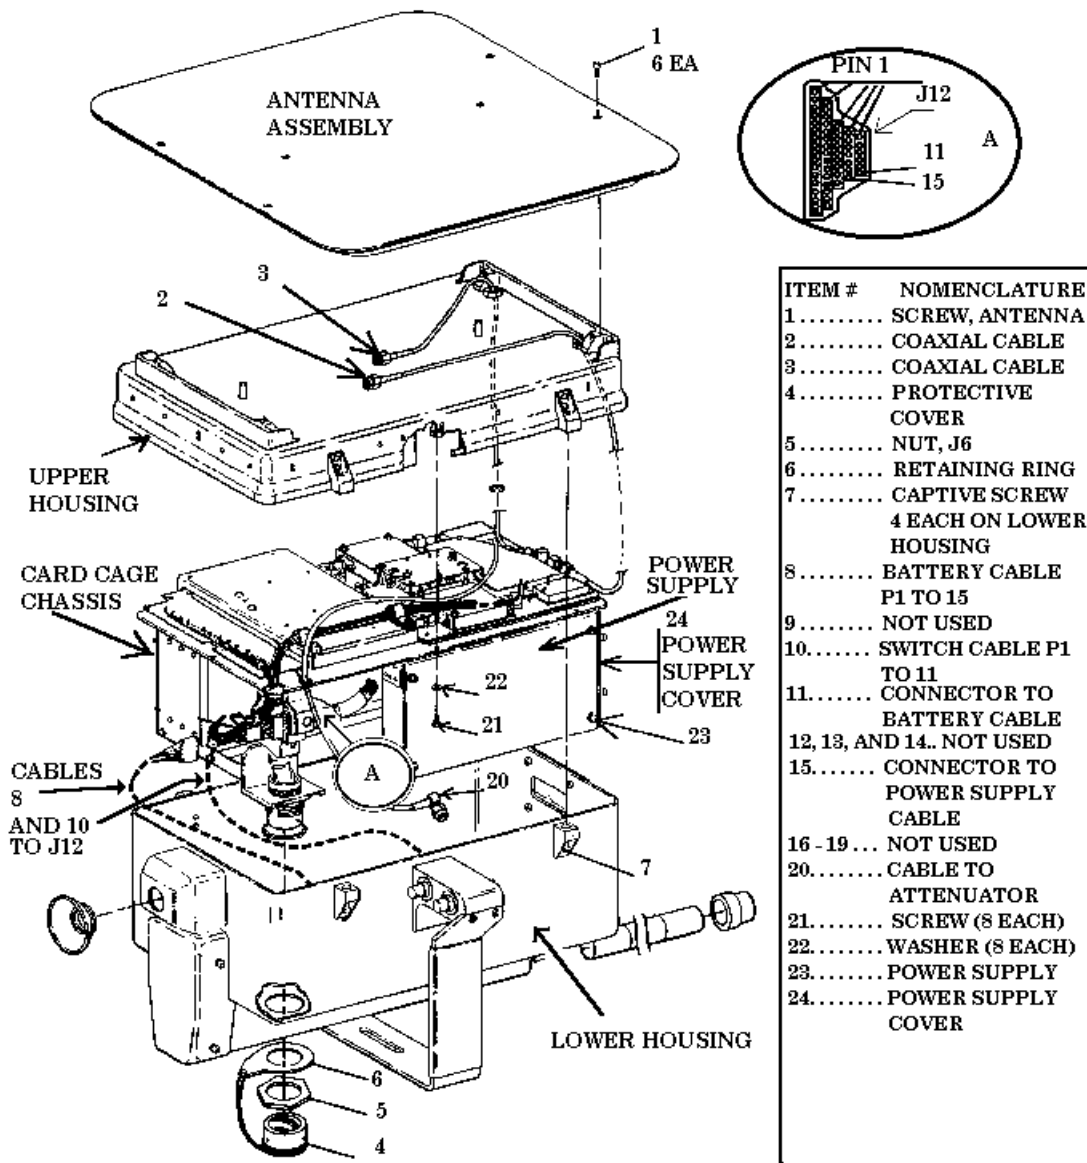

Figure 4. Disassembly blowout.
Disassembly instructions and items in parenthesis below are used in conjunction with test set disassembly blowout (fig. 4).
- (1) Remove six screws (1) (fig. 4).
- (2) Gently lift antenna and disconnect cables (2) and (3) (fig. 4).
- (1) Turn TI upside down and remove cover (4), nut (5), and retaining ring (6) (fig. 4).
- (2) Loosen four screws (7) (fig. 4) and gently lift and place lower housing beside TI with handle side down.
- (3) Disconnect switch cable P1 (10) (fig. 4) from connector (11) (fig. 4, inset A).
Look at connector 11 (fig. 4, inset A) and P1 cable end. Notice the arrangement of pins and guide pins for future reconnections.
- (4) Disconnect battery cable P1 (8) (fig. 4) from connector J12 (15) (fig. 4, inset A).
- (5) Disconnect cable 20 (fig. 4) from attenuator on lower housing.
- (6) Remove lower housing away from card cage chassis and lower housing.
- (1) Place upper housing on bench so that card cage chassis lip is exposed.
- (2) Remove eight screws (21) and washers (22) (fig. 4) located on lip of card cage chassis.
Use extreme care when lifting upper housing away from card cage chassis to avoid damage to coaxial cables (2) and (3) (fig. 4).
- (3) Turn TI on right side and separate card cage chassis and upper housing.
Slide cables (2) and (3) (fig. 4) part way through seals while applying a slight pressure.
Excess bending of cables (2) and (3) (fig. 4) may cause damage to cables and cause test set malfunction.
- (4) Disconnect cables (2) and (3) (fig. 4) from card cage chassis connectors when sufficient clearance is made.
- (5) Remove upper housing from card cage chassis.
k. Install SMA male to female right angle connectors to (2) and (3) (fig. 4) card cage chassis connectors.
Card cage chassis connector (2) (fig. 4) will be referred to as **DIFF** and (3) (fig. 4) will be referred to as **SUM** through the rest of this procedure.
- n.** Connect one end of power supply extender cable (part of transponder test set kit) to lower housing P1 cable (8) (fig. 4) (this cable was disconnected in **g** (4) above) and the other end of power supply extender cable to connector (11) (fig. 4).
- o.** Arrange lower housing for best connection of P1 cable (10) (fig. 4) to connector J12 (15) (fig. 4, inset A) and reconnect cable (20) (fig. 4) to attenuator on lower housing.